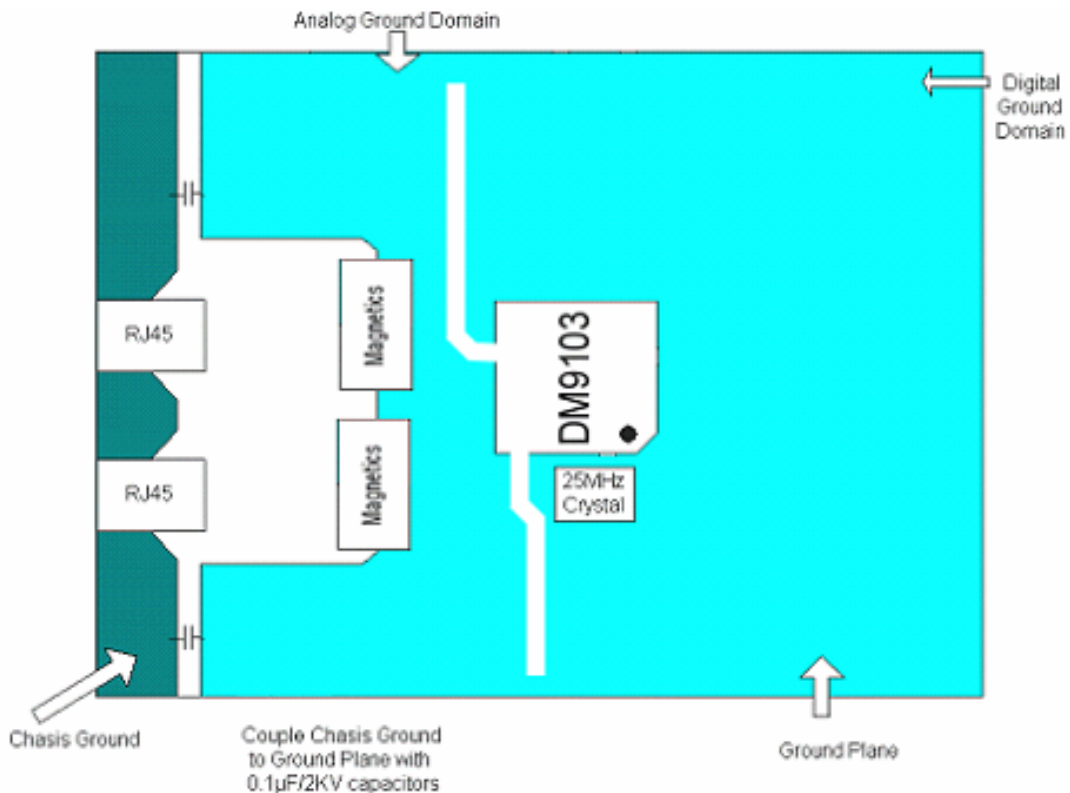
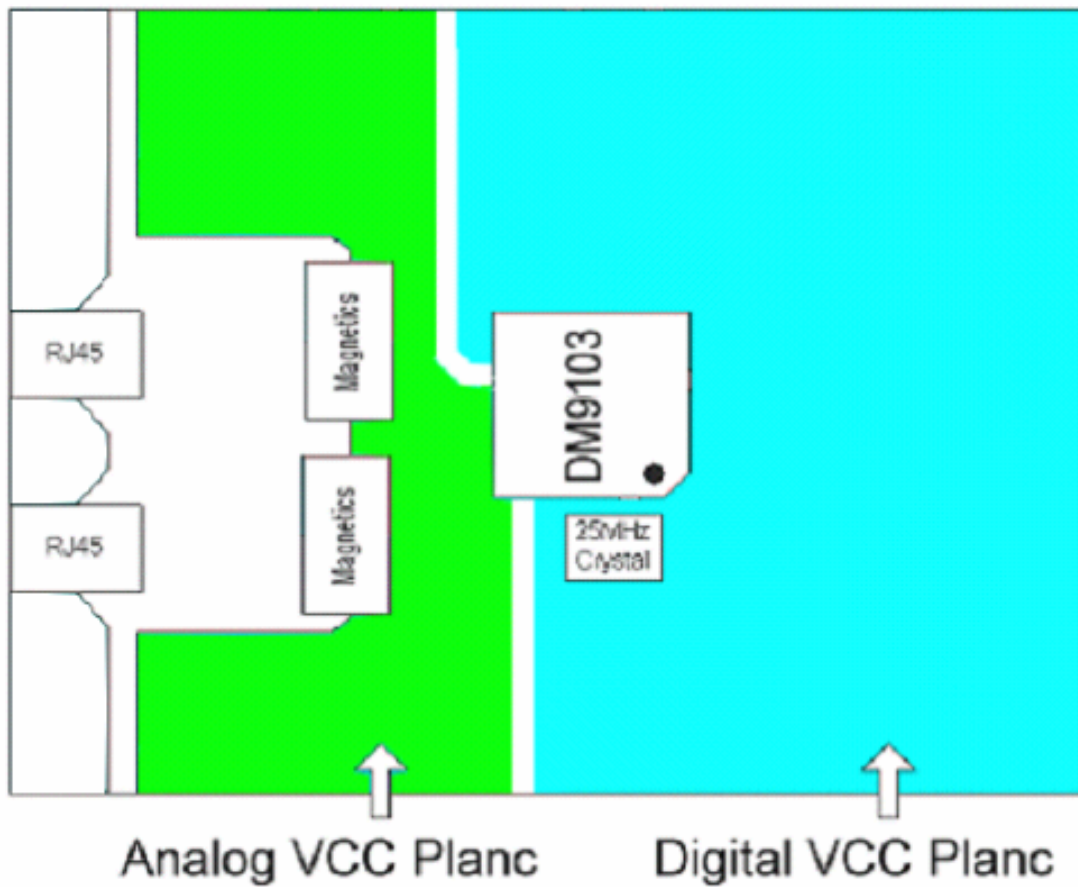

Figure 3-1
Figure 4
- The network interface (see Figure 3-1 and Figure 4) does not route any digital signal between the DM9103 RX±and TX±pairs to the RJ-45. Keep the two pairs away from all the other active signals and the chassis ground.
- Ground planes need separate analog ground domain and digital ground domain, the analog ground domain and digital ground domain connected line is far away the AGND pins of DM9103 (see Figure 3-1).
- The power planes should be as approximates illustrated in Figure 4.